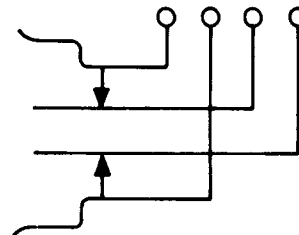

Fig. 2—452A Jack
2.02 **452A:** This single-mounted jack (Fig. 2) is used in the panel of the patching cord test set per J94711A. This jack is also equipped with No. 2 metal contacts.